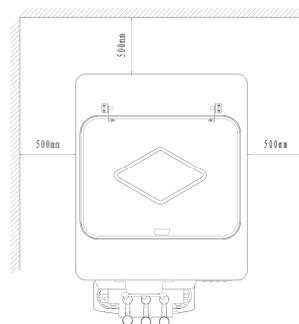

Fig 3
- The distance between the machine and the wall or between the machine and the other things should be at least 500mm (Fig. 3.) The below hole should keep smooth, no inhaled thing around the machine. For the hot air outlet of the condenser, the gap should be as big as possible so that the hot air can drain smoothly.